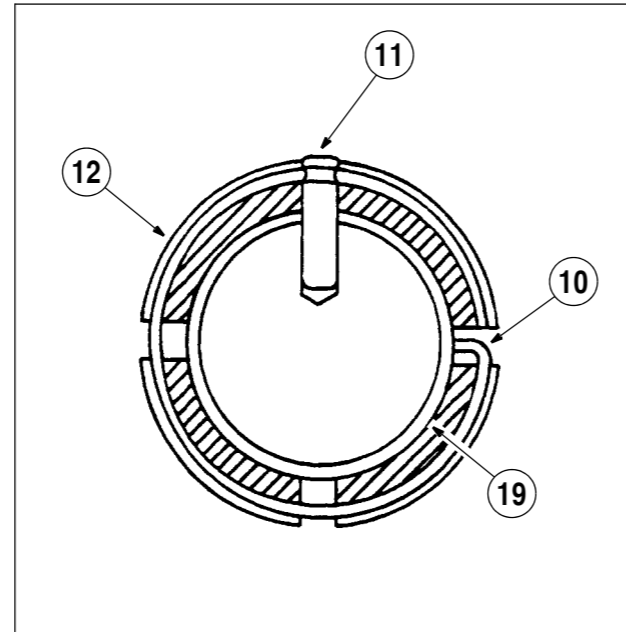

FIGURE 2. PISTON AND PISTON ROD HOLE ALIGNMENT
6. Install the O-ring (8) next to the backup ring (9) in the groove on the outside of the gland (3). The O-ring (8) must be toward the small end of the gland (3).
7. Remove any marks and sharp edges on the chamfer at the end of the piston rod (19). Make sure that the piston rod (19) is clean.
8. Lubricate the bore of the gland (3) and the piston rod (19) with clean oil.
9. Push the gland (3) onto the piston rod (19). If necessary, use a soft hammer to drive the gland (3) onto the piston rod (19).
10. Put a support below and near the end of the piston rod (19). Use a shop cloth between the support and the piston rod (19) to prevent damage to the piston rod (19).
11. Install a new backup ring (18) in the groove in the ID of the piston (12). If both sides of the backup ring (18) are not flat, the side that is not flat must be toward the O-ring (17).
12. Install a new O-ring (17) in the groove in the ID of the piston (12) next to the backup ring (18).
13. Install the other new backup ring (16) in the groove in the ID of the piston (12) next to the O-ring (17). If both sides of the backup ring (16) are not flat, the side that is not flat must be toward the O-ring (17).
14. Lubricate the ID of the piston (12) with clean oil.
15. Start the piston (12) onto the piston rod (19). Turn the piston (12) onto the piston rod (19) until the piston (12) is seated against the shoulder of the piston rod (19).
16. If none of the holes in the piston (12) align with the holes in the piston rod (19), turn the piston (12) counterclockwise until one of the holes in the piston (12) aligns with one of holes in the piston rod (19). Do not turn the piston (12) more than 90 degrees. Refer to Figure 2 for pin placement and hole alignment.